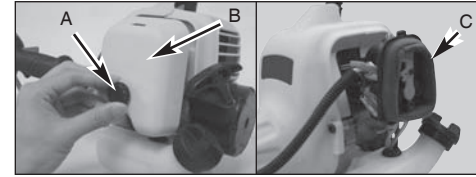

Fig. 16
1. Remove knob (A) holding air filter cover in place remove cover (B) and lift filter (C) from air box (Fig. 16).